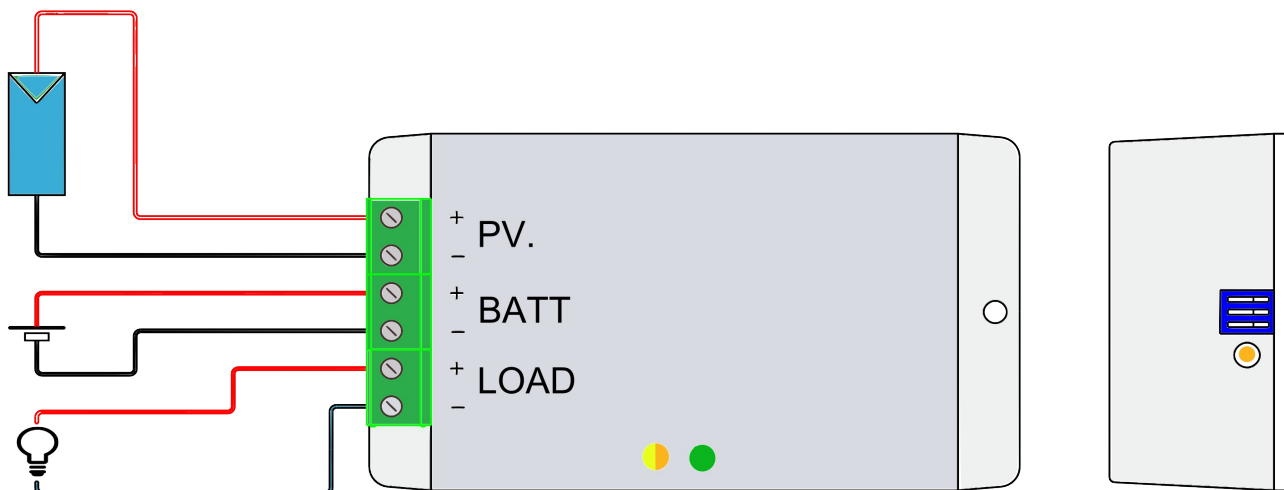

Fig. 2 Connection scheme
- 5) Make the electrical connections as shown in Fig. 2,